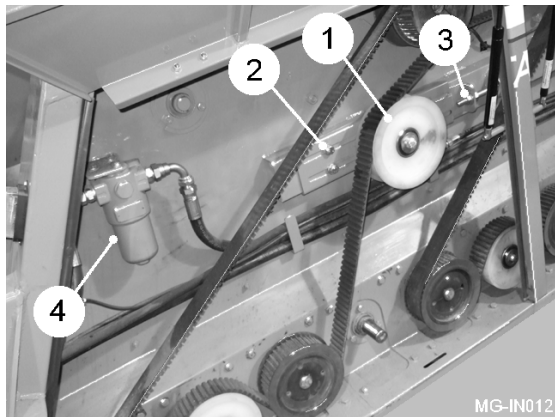

Fig 16
As a guide, correct belt tension is achieved when, at a distance half way between the furthest spaced pulleys, the belt can be twisted approximately 45°. The LH and RH input belts should be adjusted first (see page 1.31). Ensure alignment by measuring the distance between the pulley centres. Both sides must be equal. The tension rollers (item 1, fig 16) are each fitted with a compression spring. When tensioned correctly, the LH drive springs should be compressed to the lengths shown on page 1.32 and the RH drive springs to the lengths shown on page 1.33. To adjust the tension, loosen the four mounting bolts (item 2, fig 16) and turn the adjuster screw locknuts (item 3, fig 16).
A pressure filter (item 4, fig 16) is mounted in the supply line from the tractor. The element should be replaced after the first 50 hours of running time and then annually or every 500 hours thereafter.